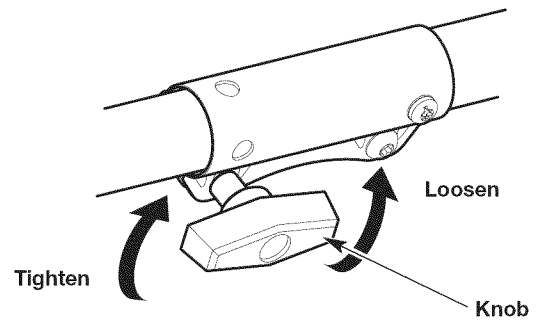

Fig. 6
3. Turn the knob counterclockwise to loosen the coupler (Fig. 6).
6. Turn the knob clockwise to tighten the coupler (Fig. 6).
2. Turn the knob counterclockwise to loosen the coupler (Fig. 6).